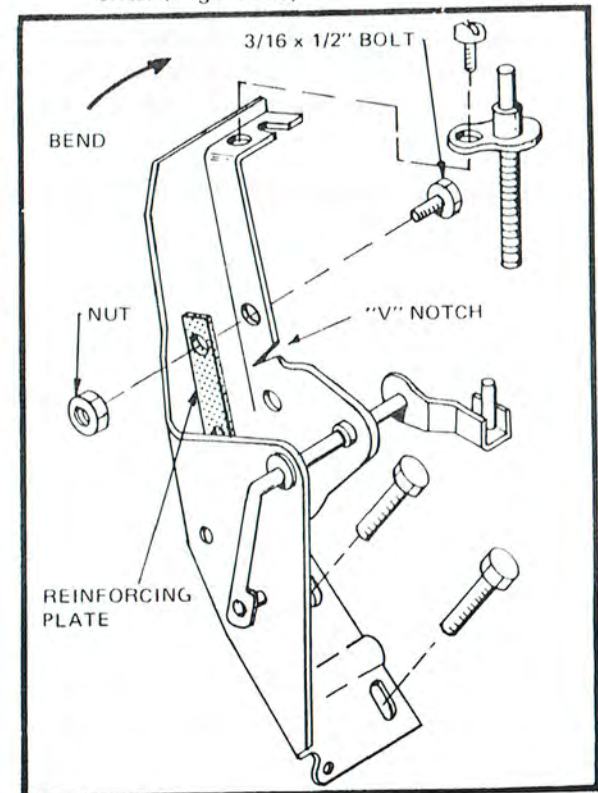

Figure 20
- Cut a small "V" notch out of the side of the bracket just above the down shift linkage arm. Bend the bracket upwards until it just clears the master cylinder. Drill two holes, $3/16$ ", for the bracket reinforcing plate. Secure with $3/16 \times 1/2$ " bolts and nuts. Attach accelerator cable and check for free movement. Bend the bracket slightly to the side to clear any engine components. (Figure 20)